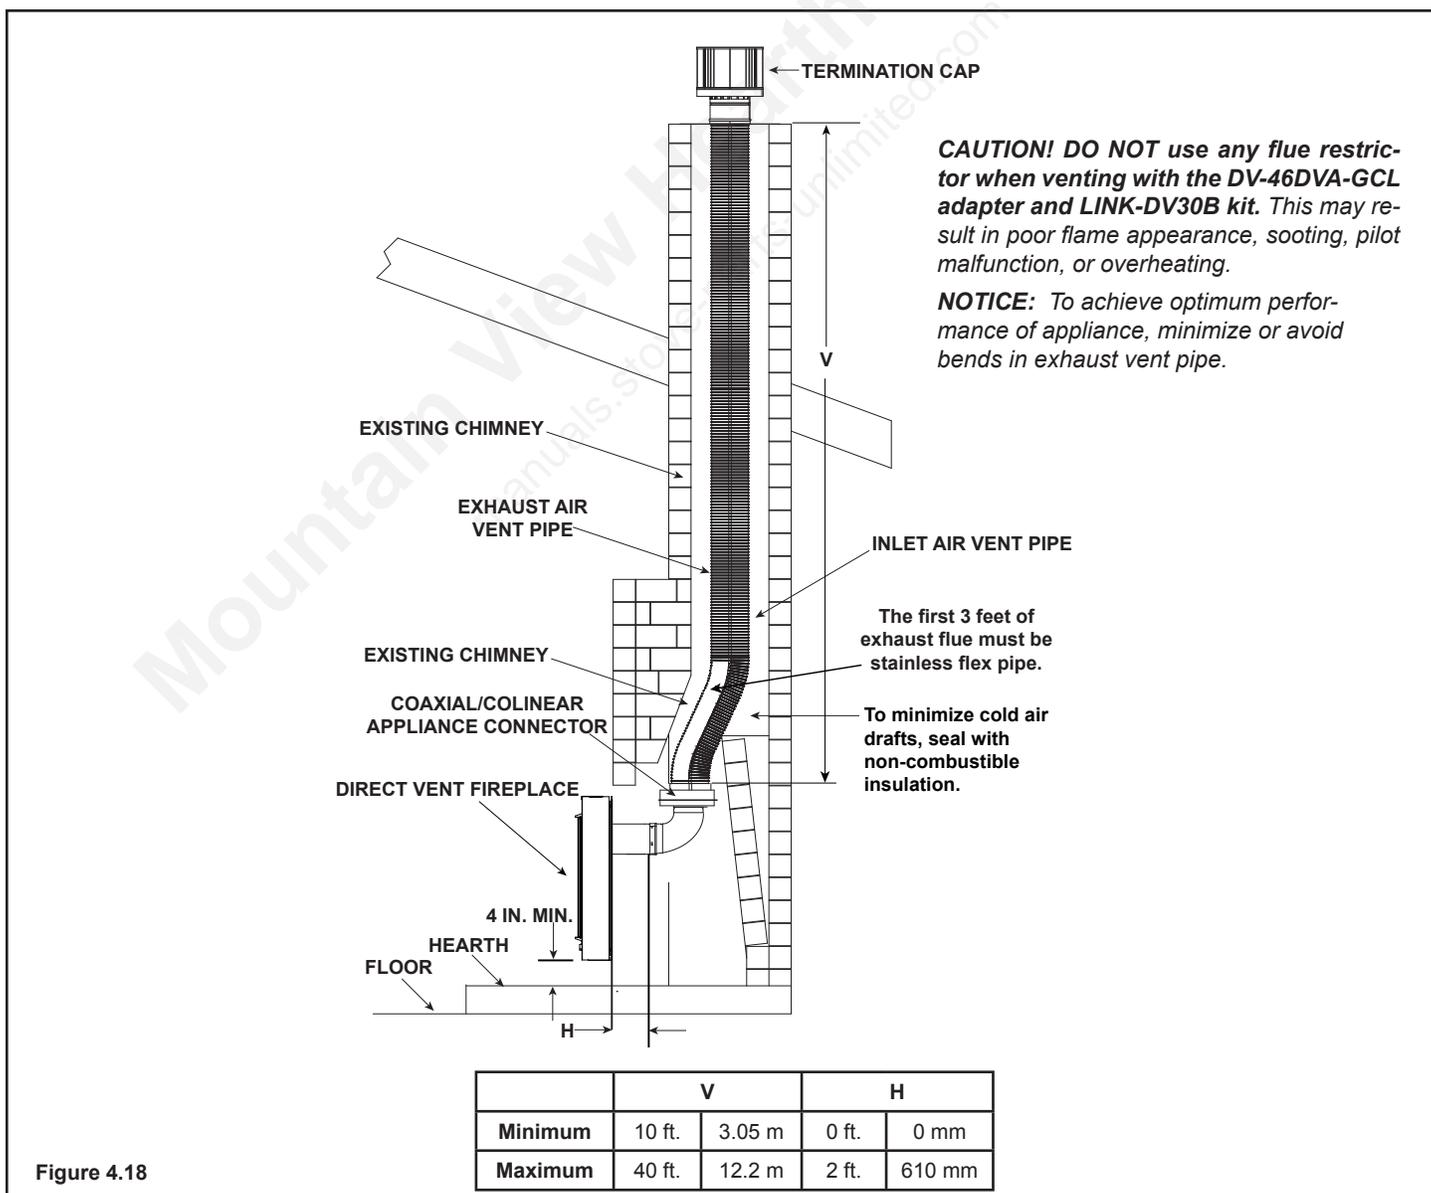

Figure 4.18
- Connect the vertically positioned elbow. Secure DV-46DVA-GCL adapter to the elbow with 3-1/2 in. self-tapping screws. See Figure 4.18.